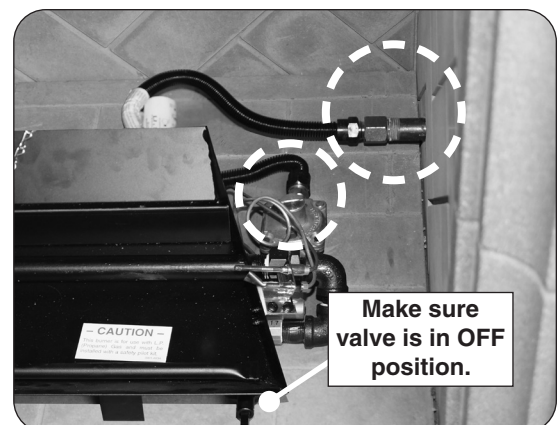

Fig. 15-3 Perform leak test
3. Place the burner system in the fireplace. Center the burner from left to right in the fireplace. (Reference Fig. 15-3 for orientation.)
6. **LEAKTEST:** Make sure the burner valve is in the OFF position. Turn on the fireplace gas supply, and test at all connections for leaks using the appropriate soapy water solution. See Fig. 15-3. If bubbles appear, a leak is present. Turn off the gas and tighten at all connections. Repeat until no leaks are present. If a leak persists, turn off the gas supply and contact the local gas company or dealer. NEVER USE A FLAME TO CHECK FOR LEAKS.